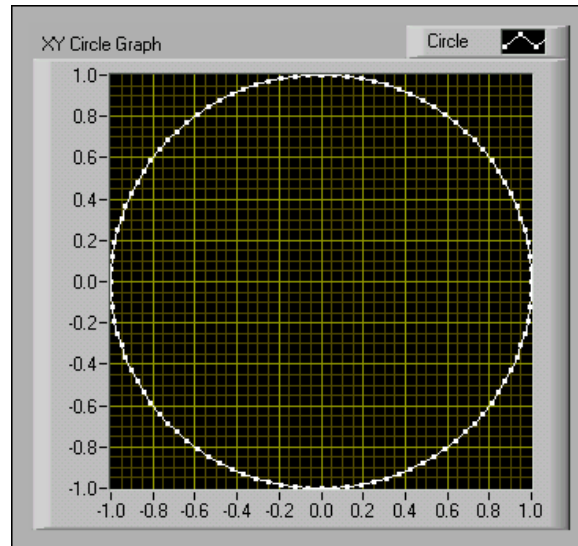

Figure 7.25
1. Open a blank VI and build the front panel shown in Figure 7.25.
- (e) Change the scale labels and ranges, as shown in Figure 7.25.